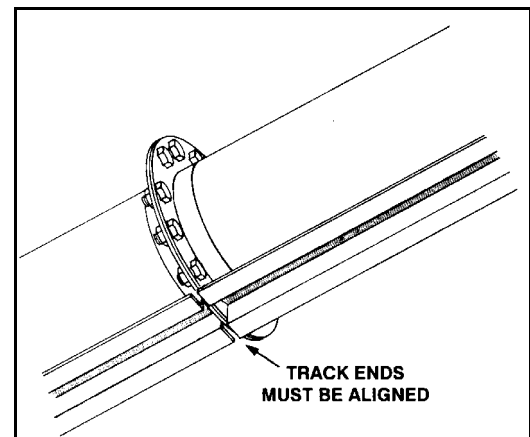

Figure 3.2
4. Slide tube sections and driveshafts together and insert the twelve 7/16" x 1-1/4" bolts and locknuts. Align the upper and lower track ends, then tighten the bolts. Also tighten set screws in the driveshaft coupler (see Figure 3.2).
3. Slide track shoe along full length of track to make certain there is no binding and that track ends are properly aligned. The upper and lower tracks must align to allow track shoe to roll smoothly over this joint (Figure 3.2 and 3.3).